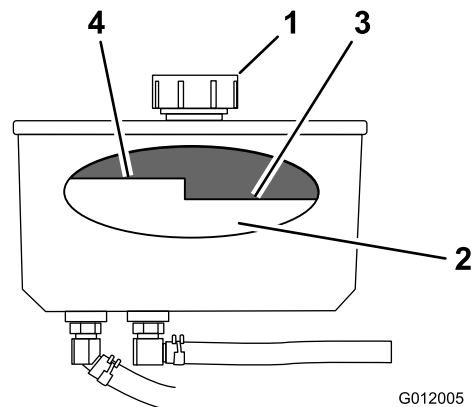

Figure 71
4. Clean area around cap and filler neck of hydraulic tank (Figure 71).
5. Remove cap from filler neck. Look inside to check the fluid level in the reservoir. (Figure 71).
Note: The fluid level should be to the top of the hot level of the baffle, when the fluid is warm (Figure 71).